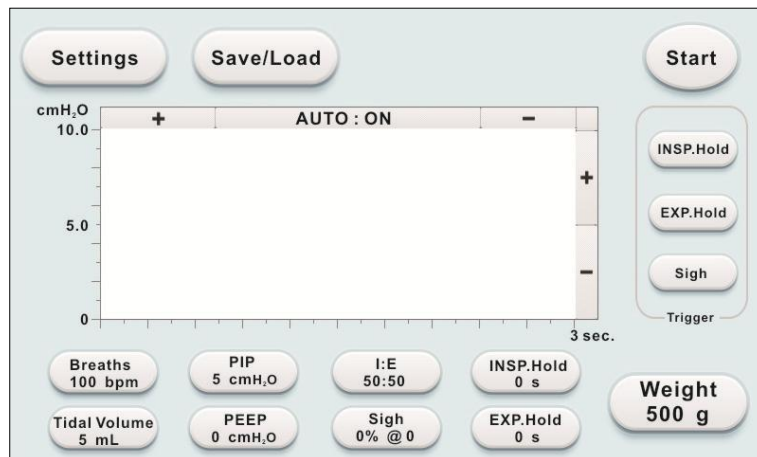

Figure 7.18
- Real-time display Pressure-Time Curve in main menu curve window (see Figure 7.18), Switch auto curve adjustment on and off by press the **AUTO** button on the upper frame of the curve window (**AUTO:ON** / **AUTO:OFF**).
Once the desired parameters have been set, the appropriate tubing has been connected (see Figure 3), press the **Start** button in top right of the main menu (see Figure 7.18), the R415 will start intermittent positive pressure ventilation (IPPV) according to user entered parameters. Meanwhile, **Start** button will turn into **Stop** button, which allows the user to stop ventilation in the emergency.